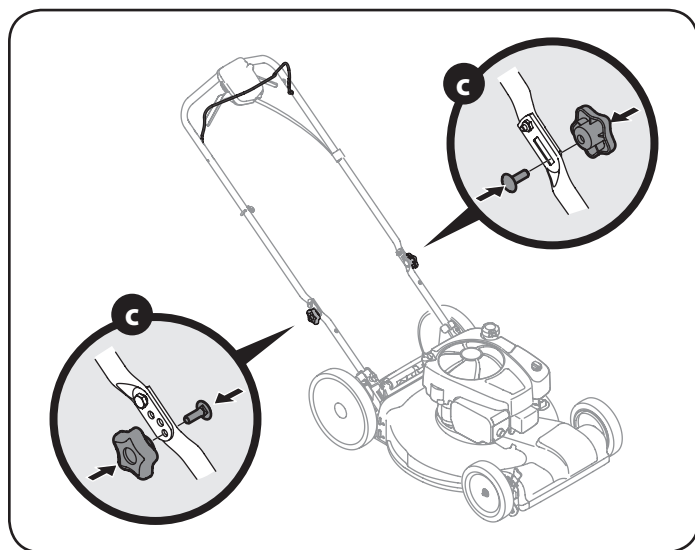

Figure 5
- c. Reattach wing nuts and carriage bolts removed in Step 1 into lower holes of handle as shown in Figure 5.